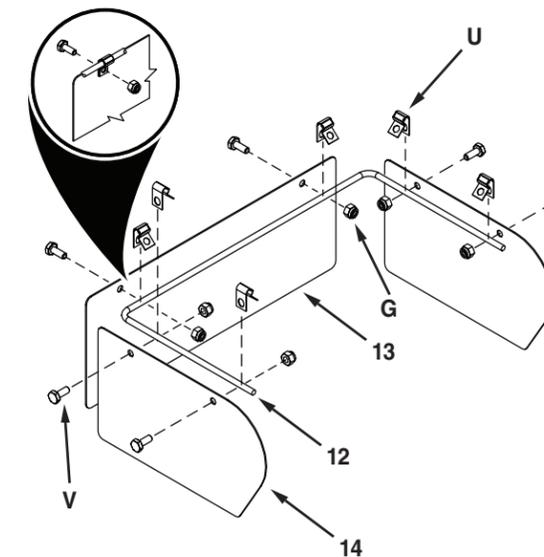

Figure 6
STEP 6: (SEE FIGURE 6)
- Install two 7/32" Bare Clamps (U) onto each side of the deflector frame (12). Pinch all six of the clamps (U) together making sure the holes are lining up. Install two 1/4" x 5/8" Bolts (V) through a side deflector (14) and two clamps (U). (Note: The rounded end of the side deflectors face towards the open end of the deflector frame (12)). Secure with two 1/4" nylock nuts (G). Repeat for other side deflector (14) and front deflector (13). Tighten hardware but make sure the deflectors can still pivot.